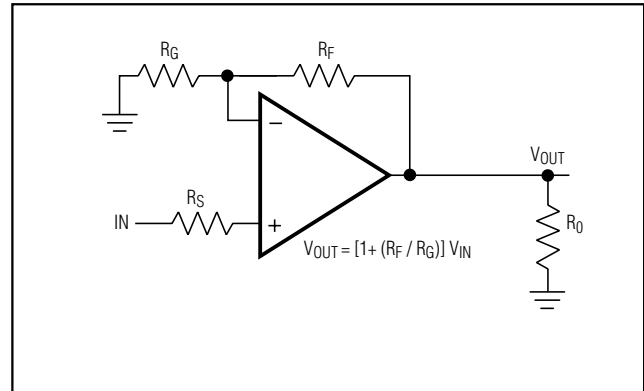

Figure 3a. Noninverting Gain Configuration
**Note:** For high gain applications where output offset voltage is a consideration, choose RS to be equal to the parallel combination of RF and RG (Figures 3a and 3b):